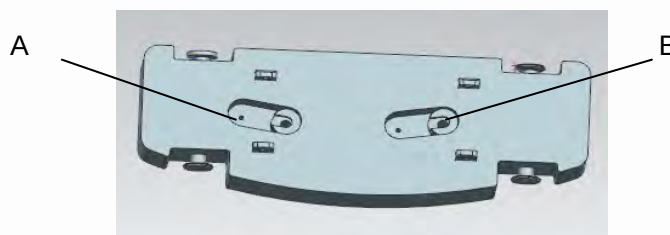

Figure 07 – 58 Counterweight plate
- (2) Extend counterweight cylinders down using Switch 3 on dash. Make sure cylinder end nest into the pockets on the top of the counterweight plate.
- (3) Rotate the superstructure counterclockwise until cylinders engage the catch for them on the top of the counterweight plate (Point B in Figure 07 – 58).